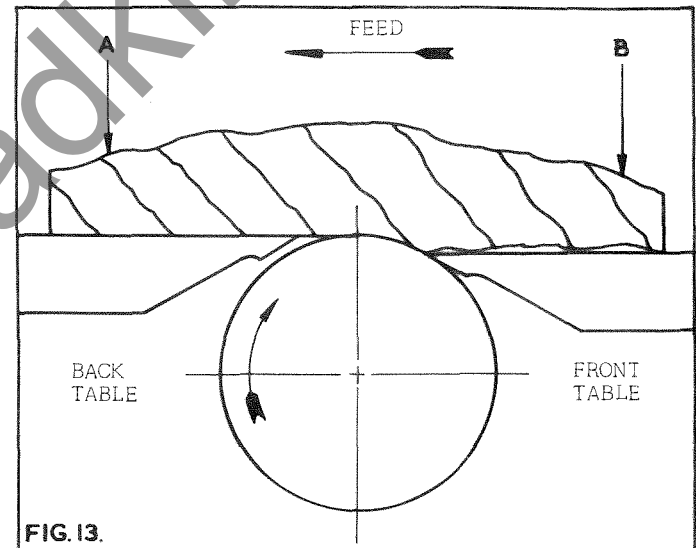

FIG. 13.
2. To obtain a perfectly flat surface especially with warped stock, always put maximum pressure on the back table at "A" in Fig. 13 and as little as possible on the front table at "B".